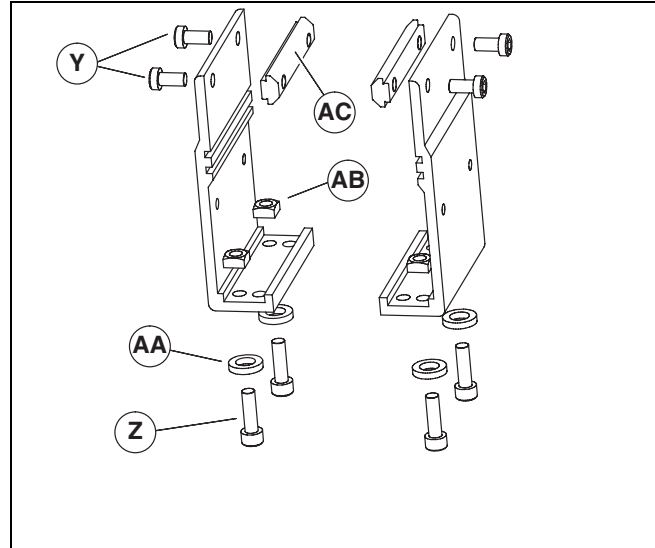
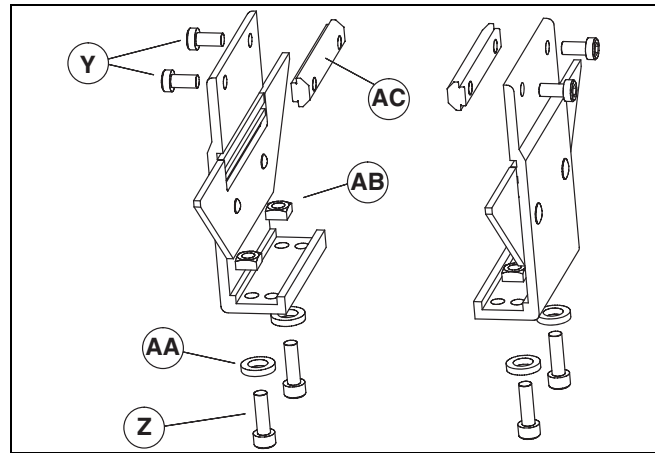
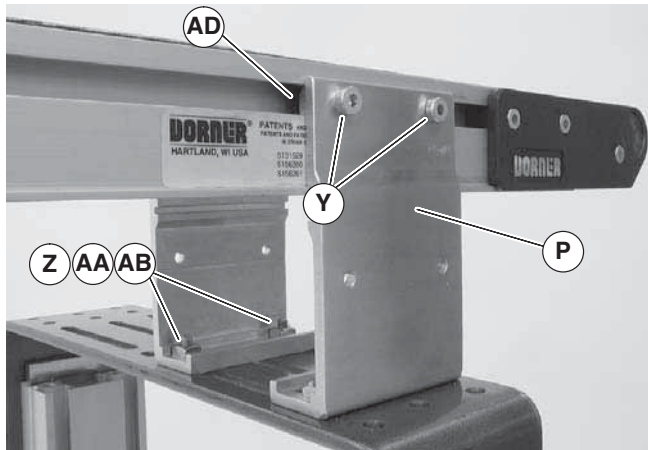

Figure 9
Figure 10
Figure 11
1. Locate brackets. Exploded views shown in Figure 9 & Figure 10.
2. Remove screws (Figure 9, item Y & Z) & (Figure 10, item Y & Z), washers (AA), nuts (AB) and T-bars (AC) from brackets.
3. Insert T-bars (Figure 9, item AC) & (Figure 10, item AC) into conveyor side slots (Figure 11, item AD). Fasten brackets (Figure 11, item P) to conveyor with mounting screws (Y).
- Fasten brackets to support stand with mounting screws (Figure 11, item Z), washers (AA) and nuts (AB).
- Tighten screws (Figure 11, item Y & Z) to 60 in-lb (7 Nm).